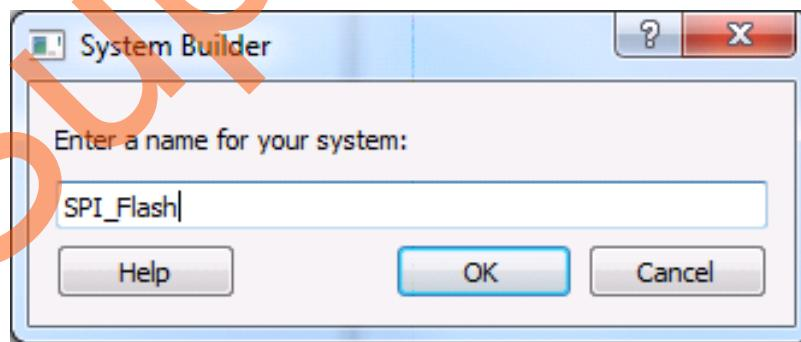

Figure 5 • Create New System Builder Dialog Box
8. Enter a name for your system, enter **SPI_Flash** as the name of the system and click **OK**. The **System Builder** dialog box is displayed with the **Device Features** page open by default, as shown in Figure 5.